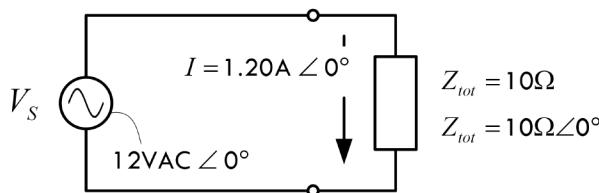

FIGURE 2.173
Example 7: The LCR parallel circuit in Fig. 2.173 is driven by a 12.0-VAC (RMS), 600-Hz source. $L = 1.061 \text{ mH}$, $C = 66.3 \mu\text{F}$, and $R = 10 \Omega$. Find Z_{tot} , V_L , V_C , V_R , and I_S , and the apparent power, real power, reactive power, and power factor. First let's find the reactances of the inductor and capacitor:
**Sinusoidal Waveforms within Parallel LC Circuit****FIGURE 2.173 (Continued)**
You can convert the voltages and current back to true sinusoidal form to get the graph shown in Fig. 2.173.